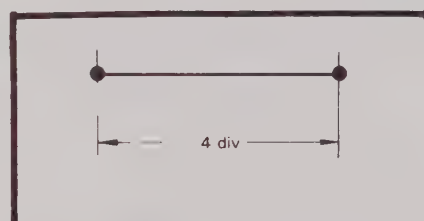

Fig. 31. Horizontal Gain Adjustment.
3. Adjust VR11 to obtain 4 divisions of horizontal deflection (Fig. 31).